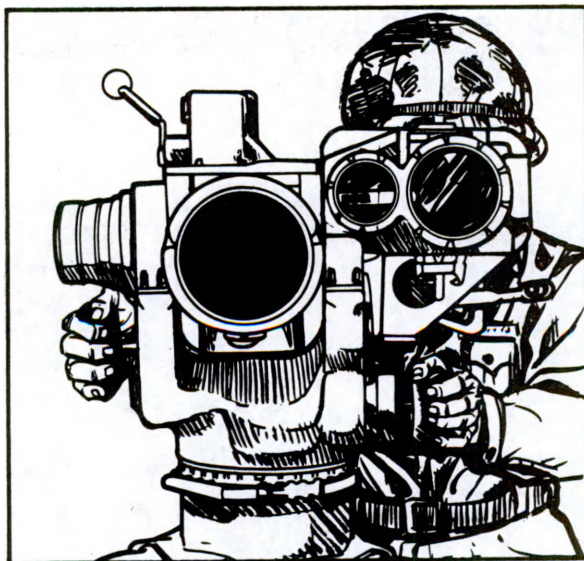

Figure 1
2. Place both hands firmly on the control knobs, as shown in figure 1.